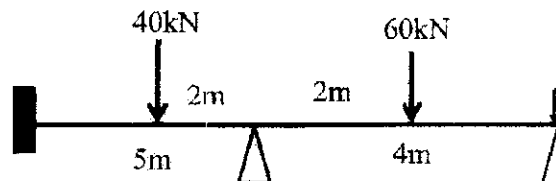

Fig. 4
- 7 Analyse and draw bending moment and twisting moment diagrams for a beam semi-circular in plan, and supported at three equally spaced hinges. The radius of the beam in plan is 3m, and it carries a UDL of 10kN/m. (20)
- 8 a) Derive expressions for shear force, bending moment and torsion of a beam with the shape of a quadrant of a circle in plan, fixed at one end and free at the other, with a point load at the free end. (10)
- b) Find out shape factor for an isosceles triangular section of base  $b$  and height  $h$ . (10)
- 9 Find the plastic moment capacity required for the beam shown in Fig. 4. Assume uniform section throughout. (20)